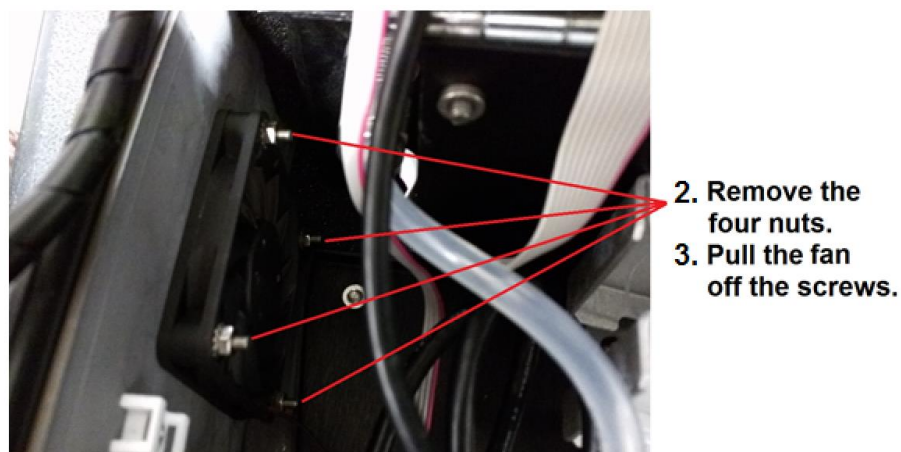

Figure 46. Remove the Fan
2. Remove the four nuts securing the fan to the inner enclosure. Figure 46.